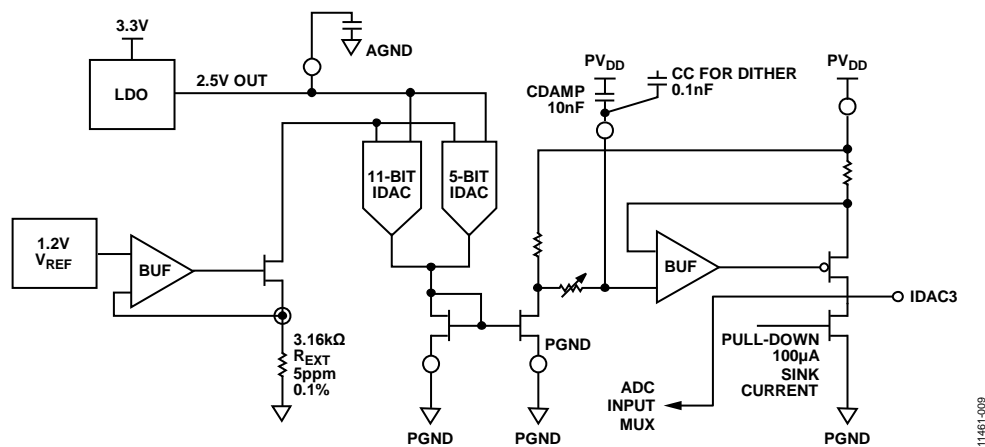

Figure 9. Example IDAC Circuit—IDAC3
Figure 9 shows the typical architecture of the IDAC. The parallel 11-bit and 5-bit IDACs set the output current scale. The output of these IDACs are summed together and fed to a current mirror and then are gained up at the output stage.
- The pull-down stage shown in Figure 9 is controlled by an 11-bit IDAC; the data register for this IDAC is IDAC6DAT, which allows the sink current to be set from 0 mA to 80 mA. When the current sink is enabled, the SOA pin voltage is pulled negative by the high voltage analog die to drain the current out of the SOA diode. To protect the SOA diode, an internal clamp circuit is in place to ensure that the voltage seen by the diode never drops below -3.5 V. The absolute minimum pull-down voltage is -3.7 V.